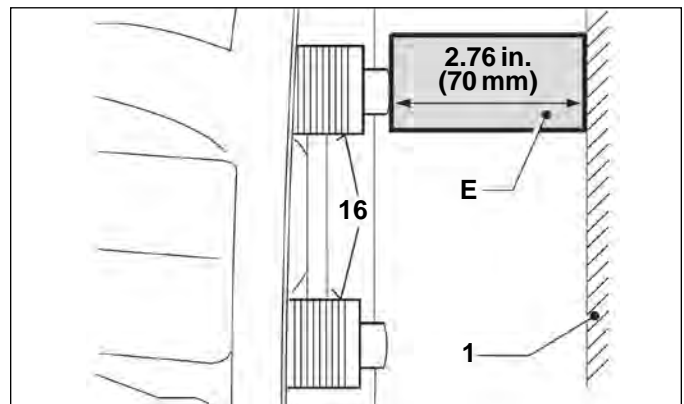

FIGURE 51 - USE OF A SPACER (OFF-VEHICLE INSPECTION)
If the work is being carried out at a workbench, the technician may insert a 2.76 in. (70 mm) spacer (See callout “E” in Figure 51) into the caliper (1) to help avoid the loss of thread engagement.